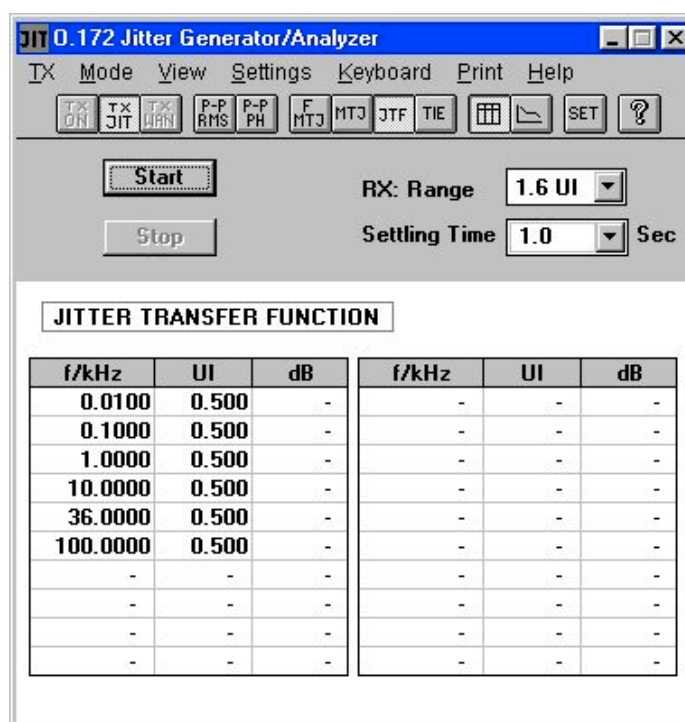

Fig.8 O.172 Jitter Generator/Analyzer window for JTF test
- a. Select JIT on tool-bar to open O.172 Jitter Generator/Analyzer window, which appears as in fig.8